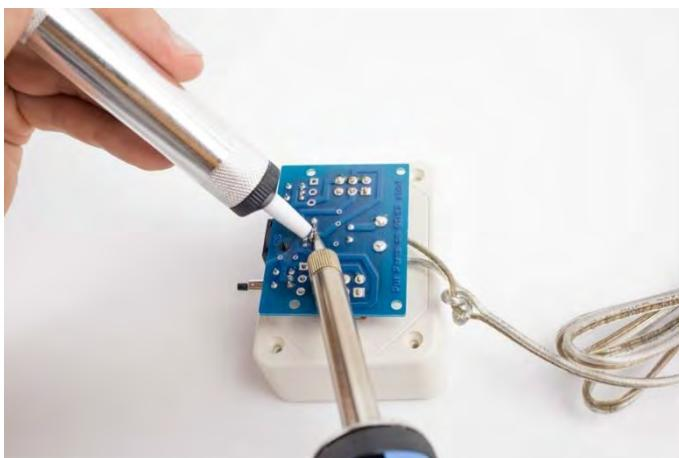

Figure 7
- Place the tip of the de-soldering pump as close as possible against the melted connection. (Figure 7)